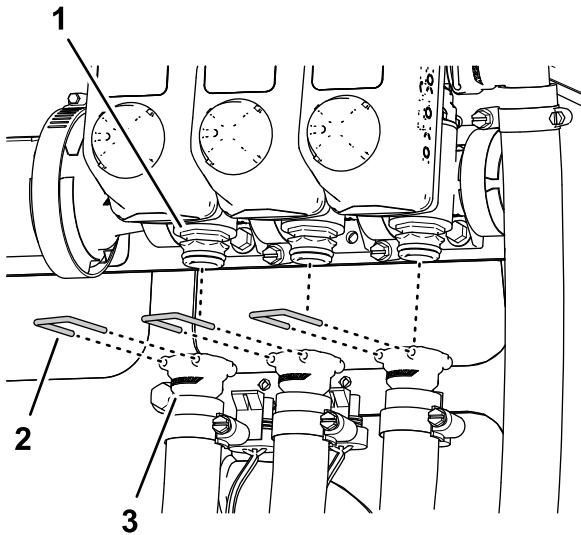

Figure 41
6. Remove the retainers that secure the quick couplers of the left, center, and right supply hoses from the quick couplers if the spray-section valves (Figure 41).
7. Remove the left, center, and right section-supply hoses from the quick couplers of the spray-section valves, and remove the hoses from the machine (Figure 41).